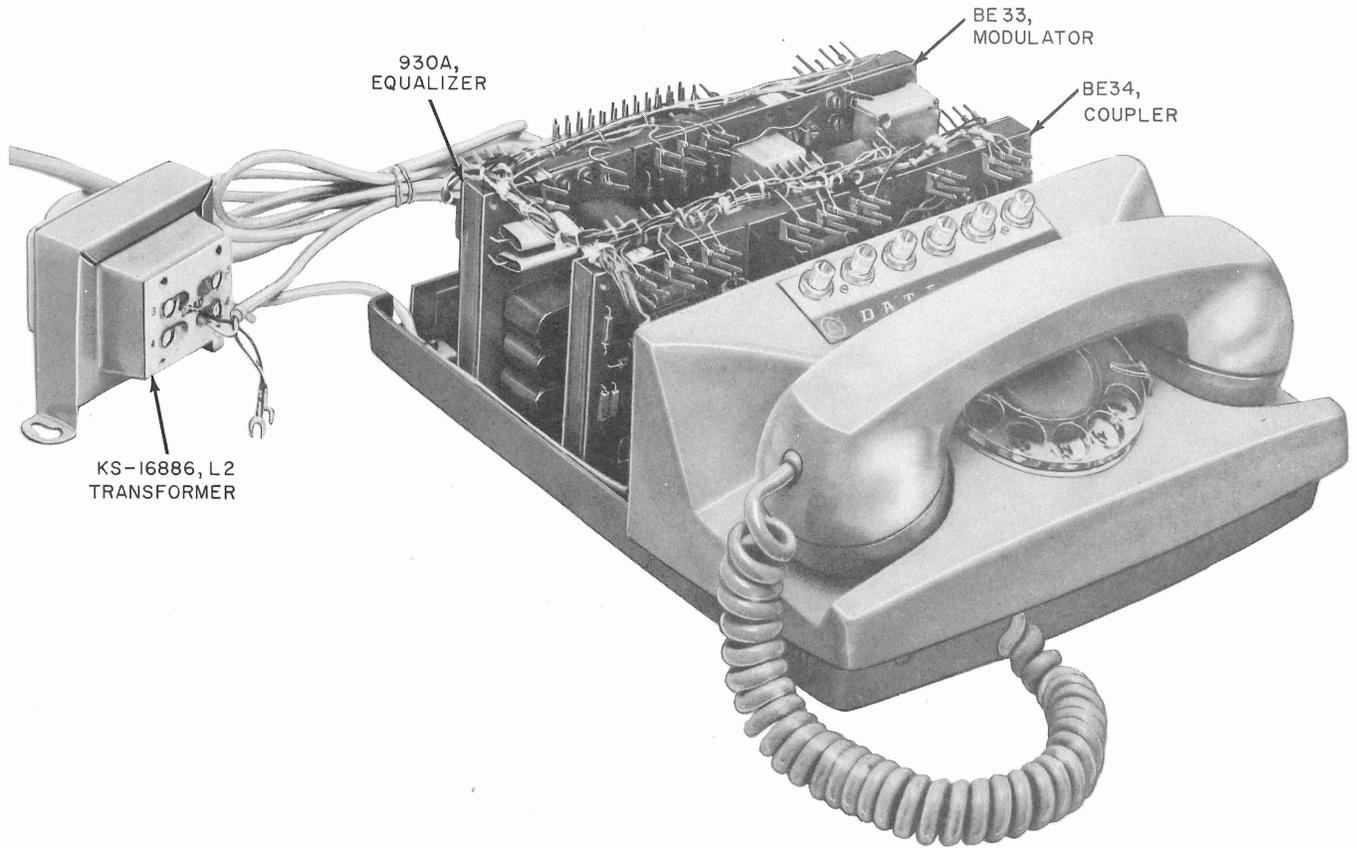

Fig. 2—Data Set 602D-Type, Inside View
**3.03** The various options available with Data Set 602D-type as well as terminal strapping information necessary for the connections are listed in Table A. Figure 2 is an inside view of the data set showing the physical location of the circuit packs containing the option strapping terminals. Make the connections necessary to complete the requirements of the service order.
**3.04** A KS-16886, L2 transformer is furnished with each Data Set 602D-type. It is a wall mounted unit separate from the data set and must be surface wired to the connecting block to which the D4BJ-61 mounting cord is attached (Fig. 2 and 3).